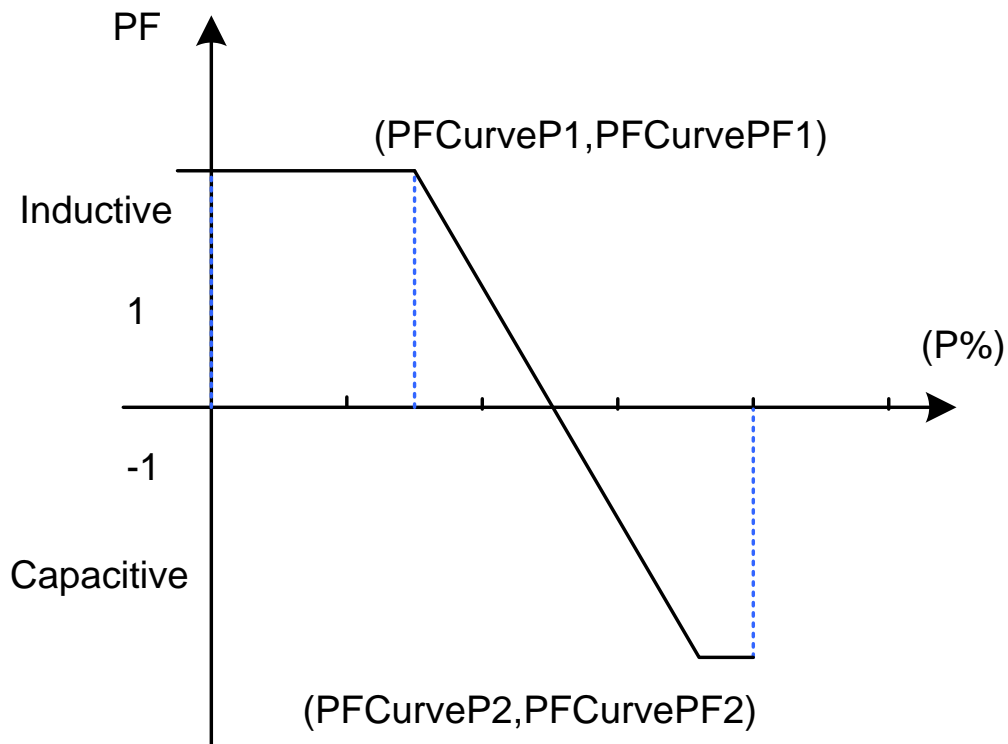

Figure 4-19 PF(P) Curve Mode
2. **pFCurve functions** : PF curve mode. Using the curves to set the PF(P) setpoints (See Figure 4-19). These functions are only available for IEEE-1547 grid standards.